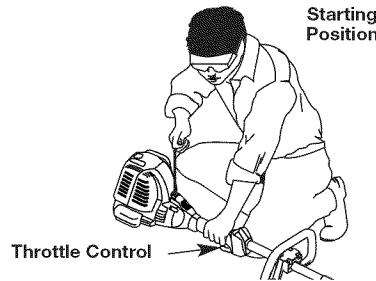

Fig. 11
WARNING: Avoid accidental starting. Make sure to be in the starting position when pulling the starter rope (Fig. 11). To avoid serious injury, the operator and unit must be in a stable position while starting.
4. With the unit in the starting position, **do not squeeze the throttle control** (Fig. 11). Pull the starter rope in a controlled motion until unit starts.
4. With the unit in the starting position (Fig. 11). Place the Plug-In Power Start or Power Bit Start into the back of the unit. Refer to Operation section of the Plug-In Power Start or Power Bit Start operator's manual.
5. **Do Not squeeze the throttle control**, press and hold the Plug-In Power Start or drill's ON (I) button for 2 second intervals until unit starts.